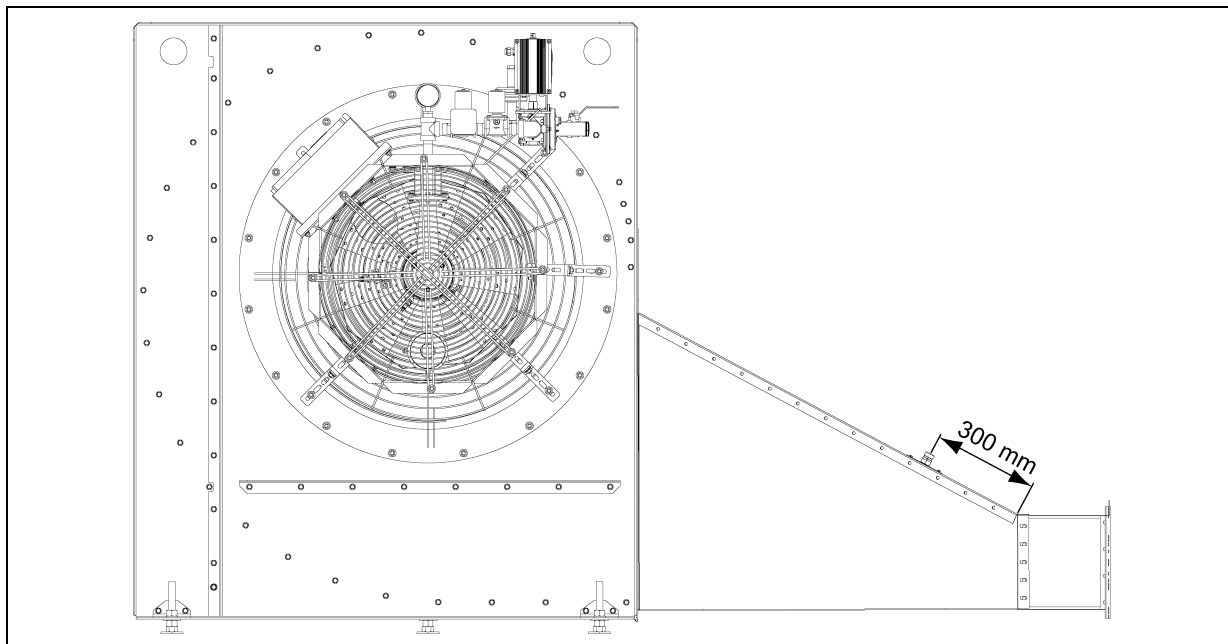

Figure 4F
1. Cut 30 mm diameter hole centrally on transition duct, 300 mm from bottom. (See Figure 4F.)